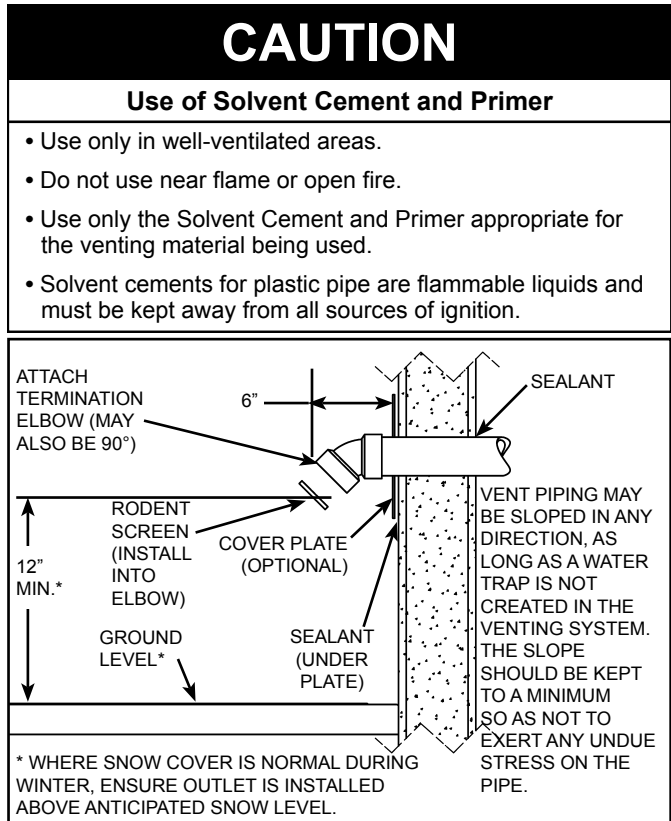
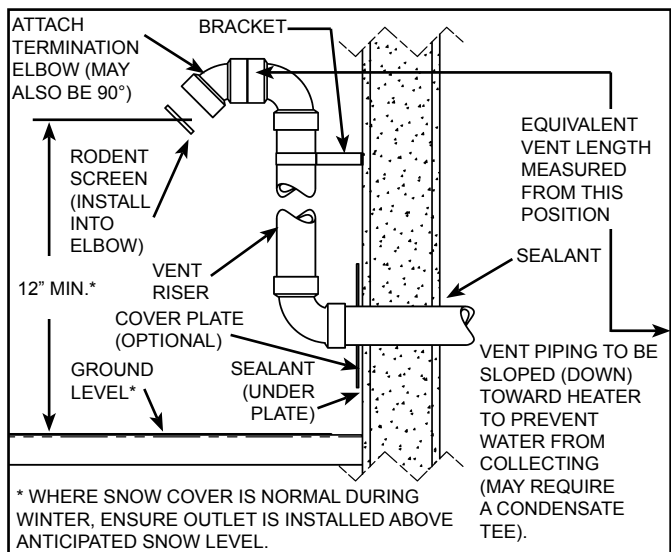
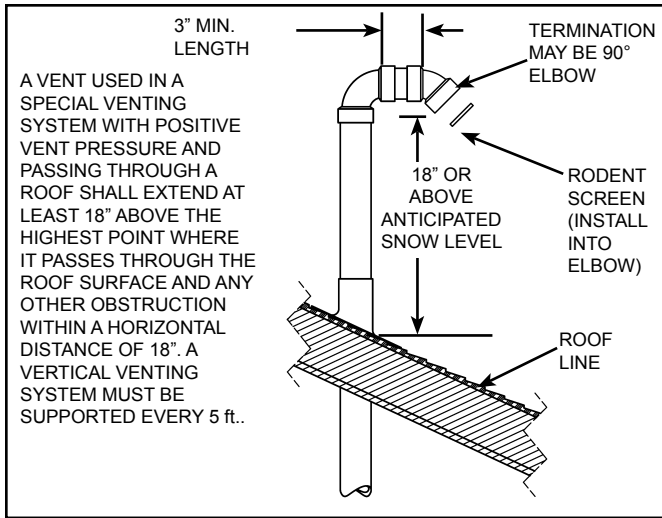

Figure 34.
Figure 35.
Figure 36.
- Refer to Figure 33 and Table 2 for vent pipe materials and sizing. Examples of the vent terminations are shown in Figure 34 & Figure 35. If the installation requires a vent riser, suitable drainage must be provided to ensure condensation does not accumulate. Termination through a roof is shown Figure 36.
9. Insert the vent piping through this hole and secure into position. Connect the vent pipe to the end termination elbow as shown in Figure 34 thru Figure 36.